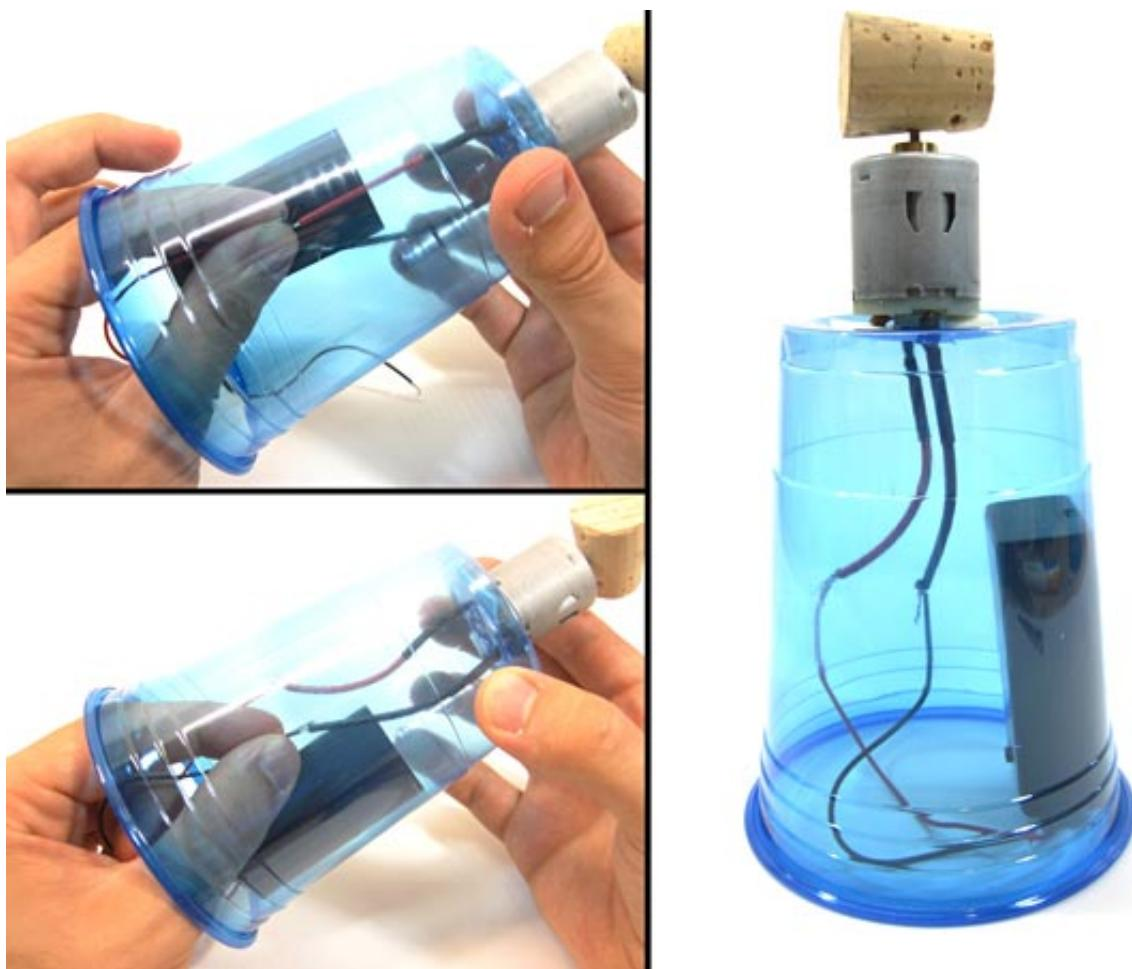

Figure 8. Twist the motor and battery holder's wires together.
7. Twist the motor and battery holder's wires together, as shown in Figure 8, below.